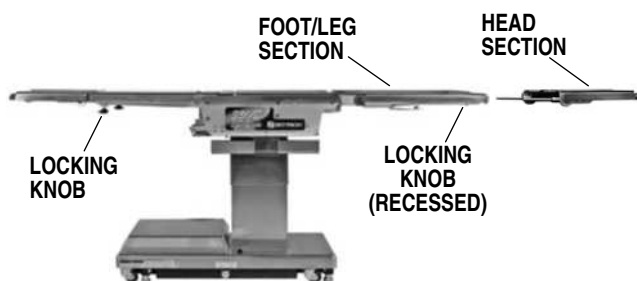

**Figure 2-18. Head Section Adjustment**
a. A quick release positioning bar located under and to the front of the head section (figure 2-18) is used to raise or lower the head section. Pull the release bar toward the head end to allow the section to pivot up or down. Positioning from 60° above horizontal to 90° below horizontal in 15° increments is available. Release the bar to lock the head section in position.